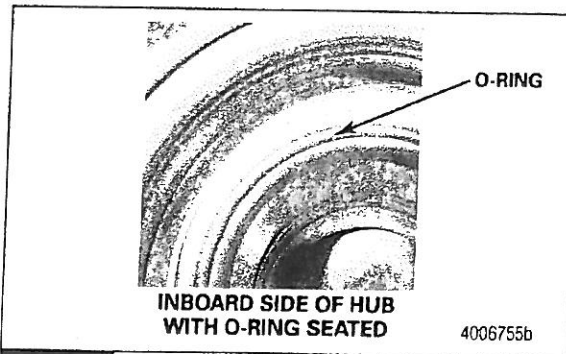

Figure 14
1. Ensure the O-ring (part number AM1205Q2747) between the bearing cartridge and the spindle shoulder is inserted into the groove and in place when the hub is installed. Figure 14.